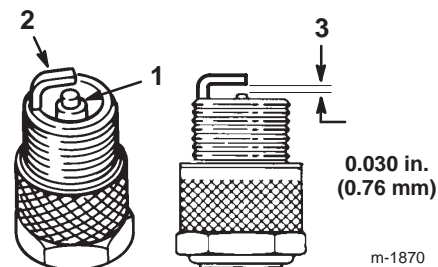

Figure 19
1. Look at the center of the spark plug (Fig. 19). If you see light brown or gray on the insulator, the engine is operating properly. A black coating on the insulator usually means the air cleaner is dirty.
2. Check the gap between the center and side electrodes (Fig. 19). Bend the side electrode (Fig. 19) if the gap is not correct.